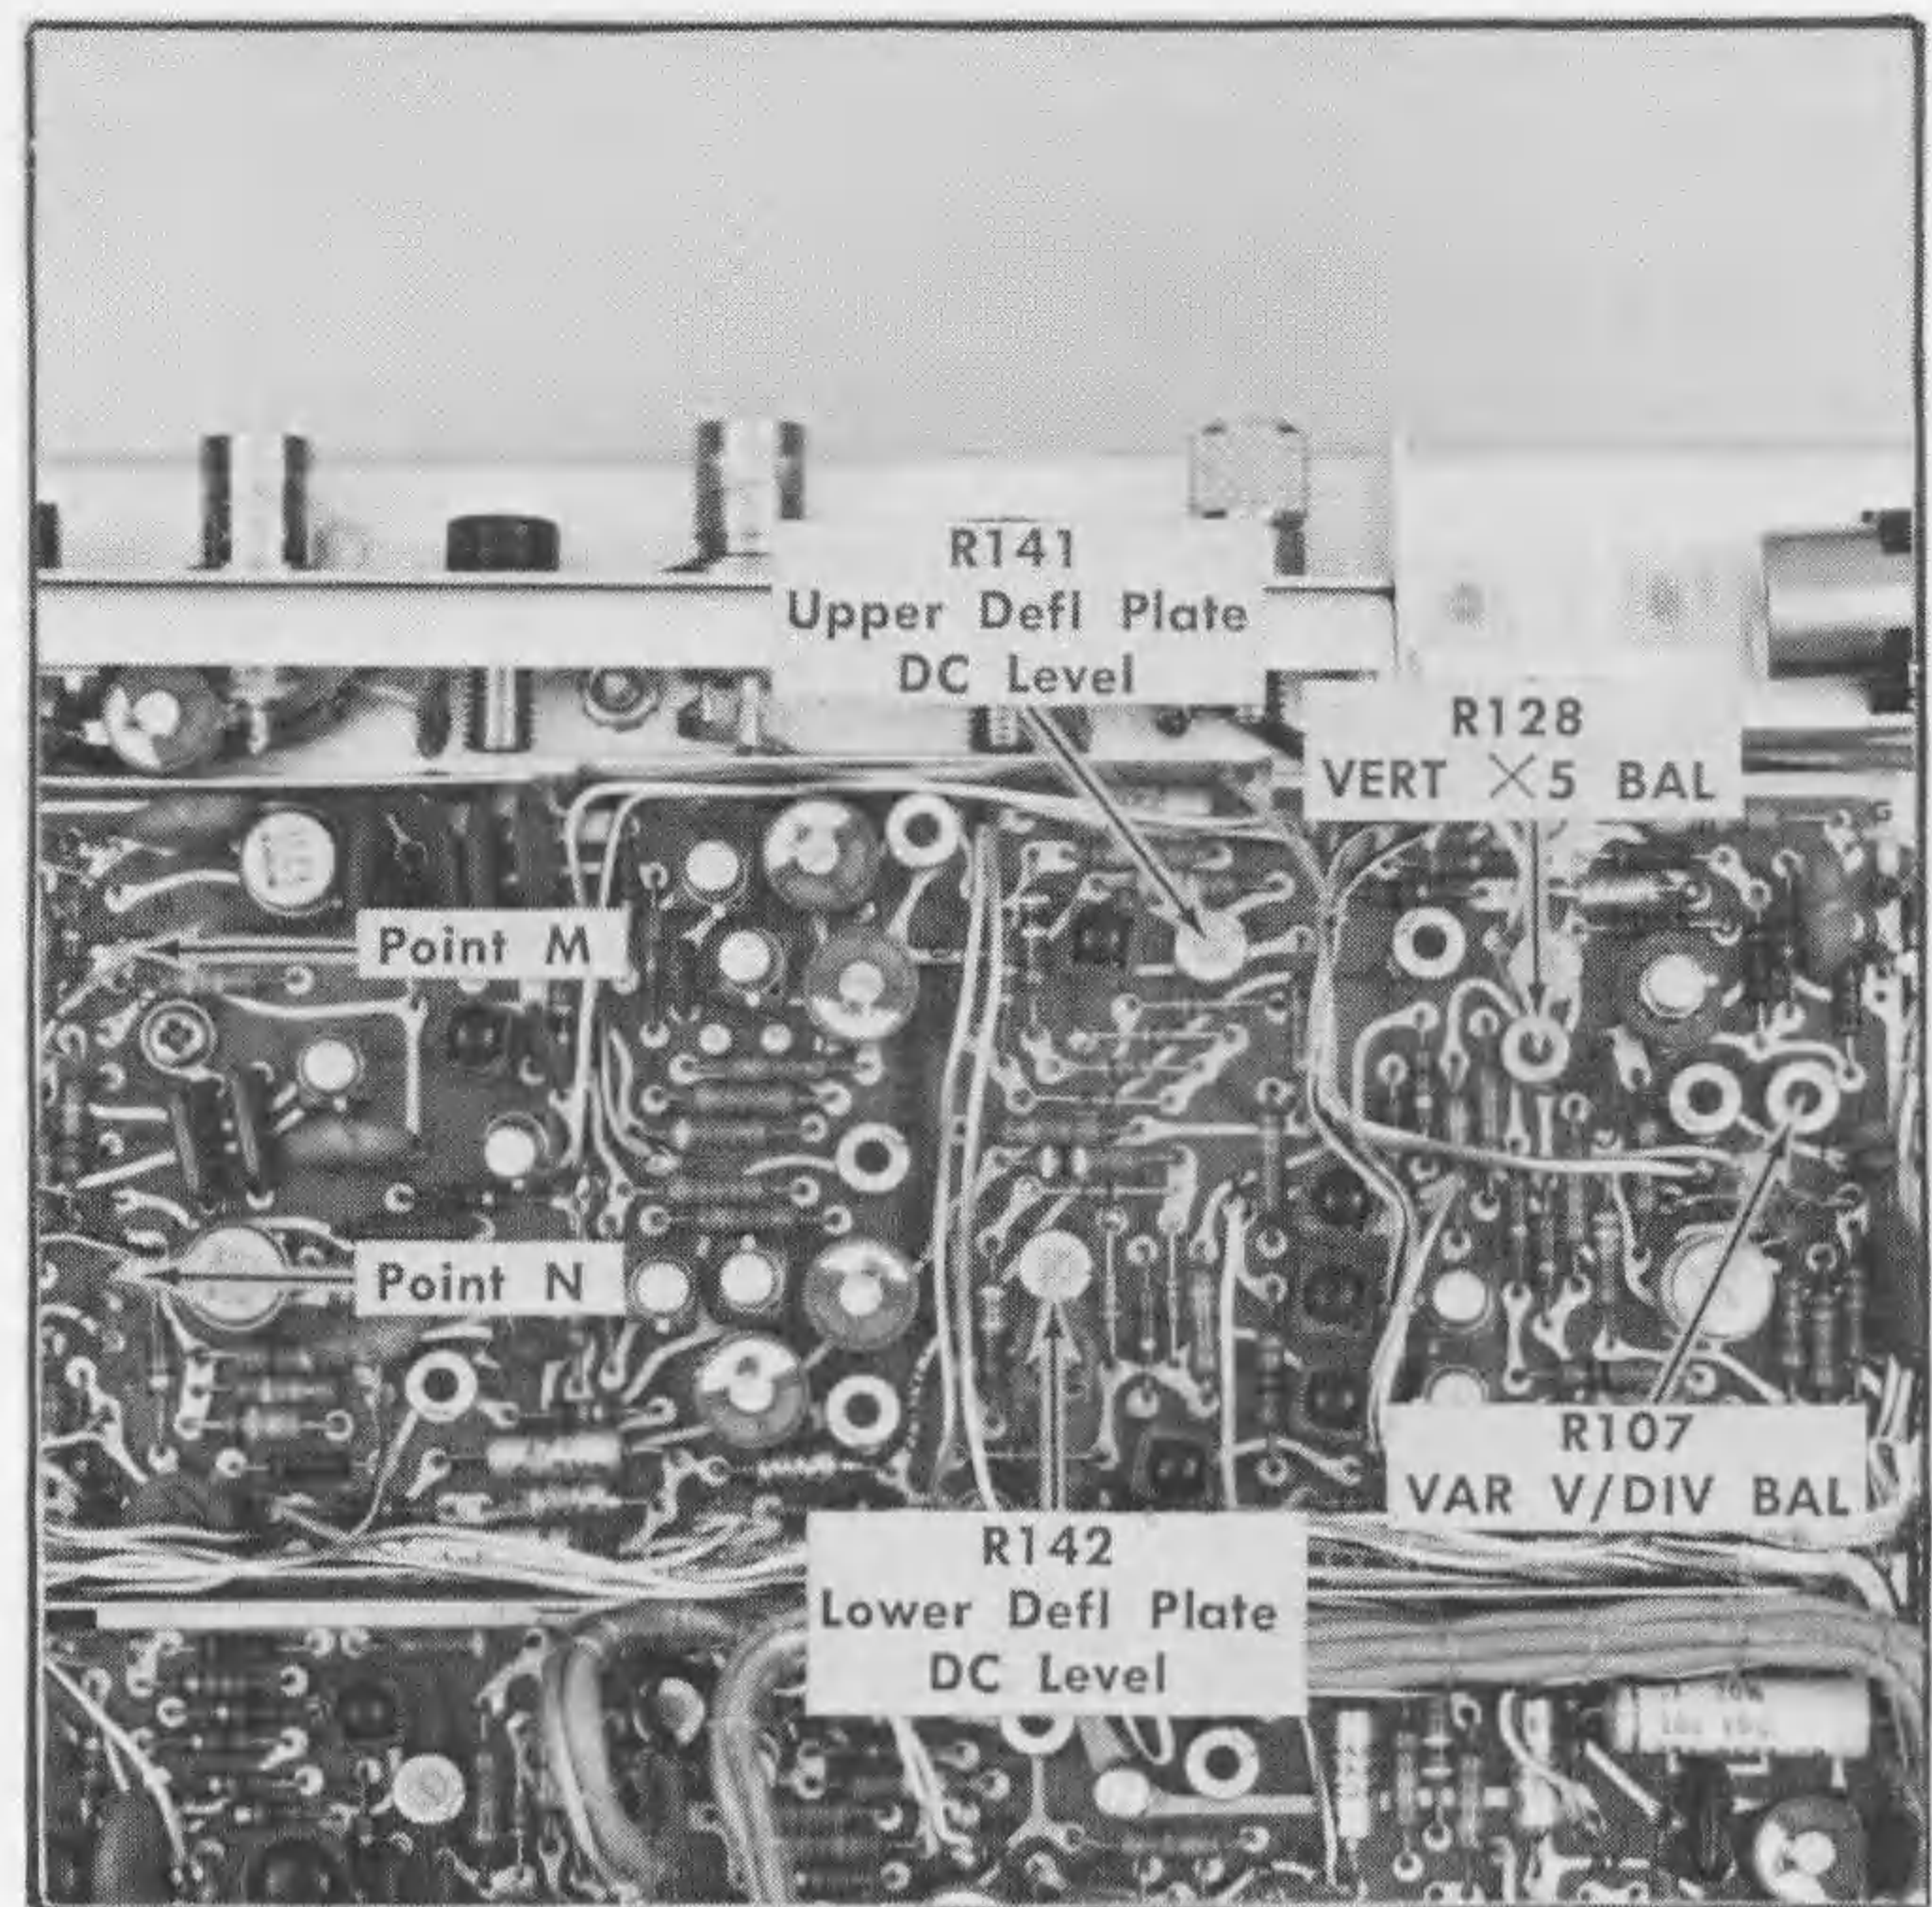

Fig. 5-5. Location of vertical adjustments (Vertical board).
c. ADJUST—VAR V/DIV BAL adjustment, R107 (see Fig. 5-5), for no trace shift as the VARIABLE VOLTS/DIV control is rotated. If necessary, use the vertical POSITION control to keep the trace on screen during this adjustment.
e. ADJUST—VERT X5 BAL adjustment, R128 (see Fig. 5-5), to return the trace to the center horizontal line. Repeat parts b through e for minimum trace shift as the X5 VERT GAIN switch is pulled out.
a. Connect the DC voltmeter from point M of the Vertical board (see Fig. 5-5) to chassis ground.
d. ADJUST—Upper Defl Plate DC Level adjustment, R141 (see Fig. 5-5), to center the measured voltage range around +50 volts.
e. Connect the DC voltmeter from point N of the Vertical board (see Fig. 5-5) to chassis ground.
h. ADJUST—Lower Defl Plate DC Level adjustment, R142 (see Fig. 5-5) to center the measured voltage range around +50 volts.